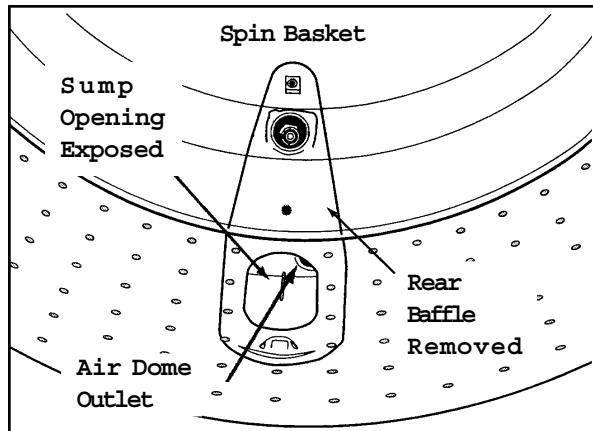

Figure 6-3
- 4 Grasp and lift the airdome hose from the sump area (**See Figure 6-3**).
- Pull the air dome and hose out through the sump opening in the spin basket (**Figure 6-3**).
- Thread the narrow end of the hose through the air dome outlet in the rear of the outer tub (**Figure 6-3**). Apply alcohol to lubricate the hose to ease insertion into the outer tub air dome outlet.